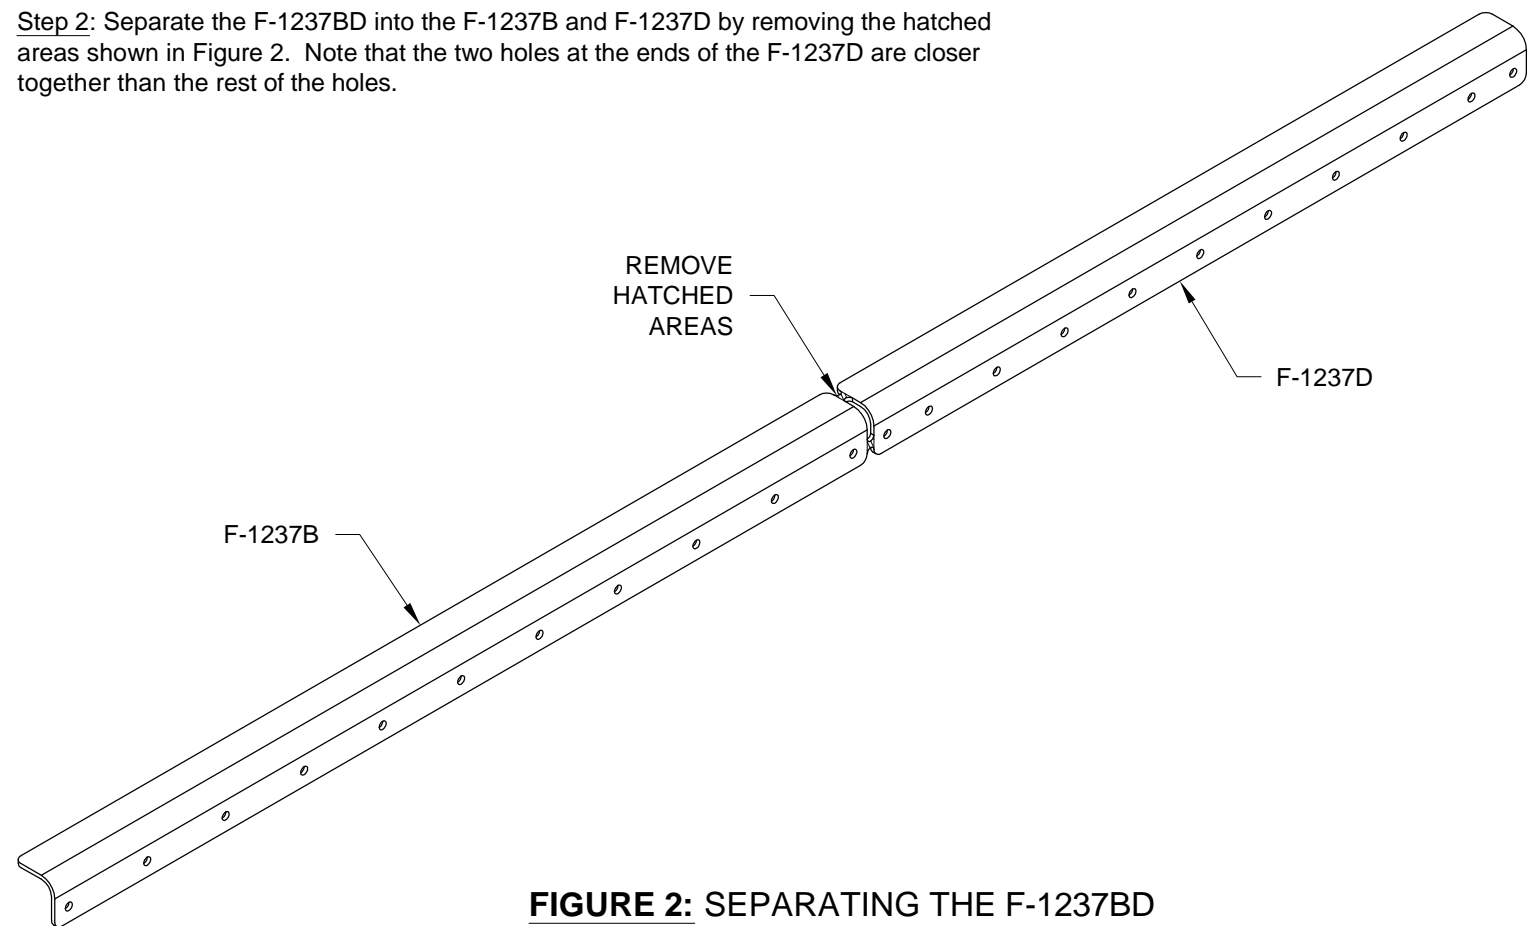

FIGURE 2: SEPARATING THE F-1237BD
Step 2: Separate the F-1237BD into the F-1237B and F-1237D by removing the hatched areas shown in Figure 2. Note that the two holes at the ends of the F-1237D are closer together than the rest of the holes.